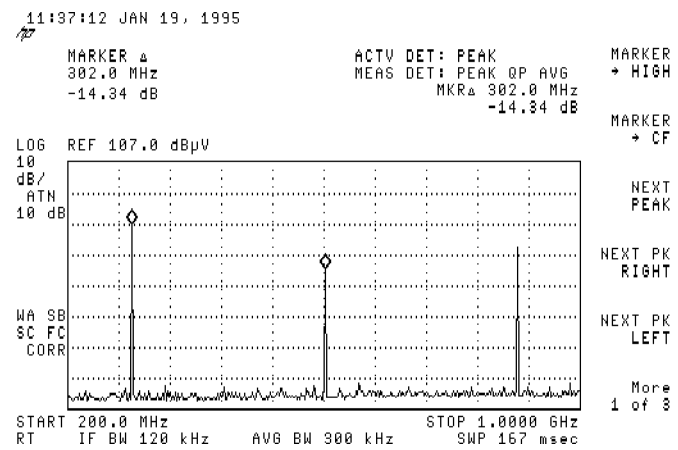

Figure 7-23. Using the marker delta function.
5. The amplitude and frequency difference between the markers is displayed in the active function block and in the Marker Box. Refer to Figure 7-23.